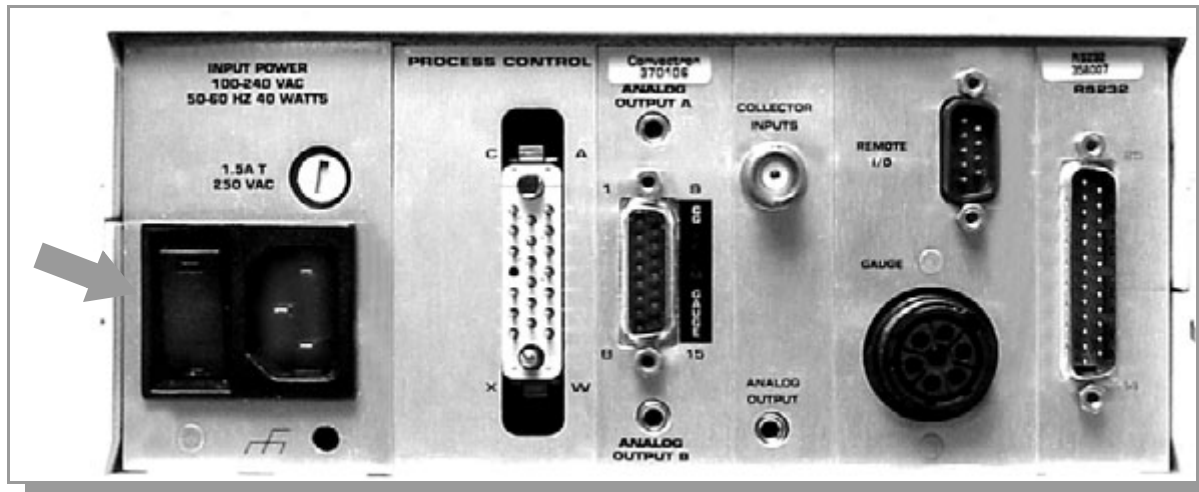

Figure 4-1 358 Controller Rear Panel Showing Power ON Switch.
2. Turn on the 358 System by pressing the Controller power switch labeled ON. See Figure 4-1.